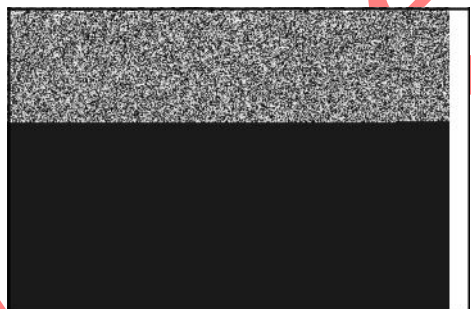

Figure 13
6. 5/9 Amp DC (Figure 13)
- One black lead from stator (A)
- Green connector (B)
- Yellow lead (C) to regulator-rectifier (F)
- One lead (D) from regulator-rectifier with red connector (E)